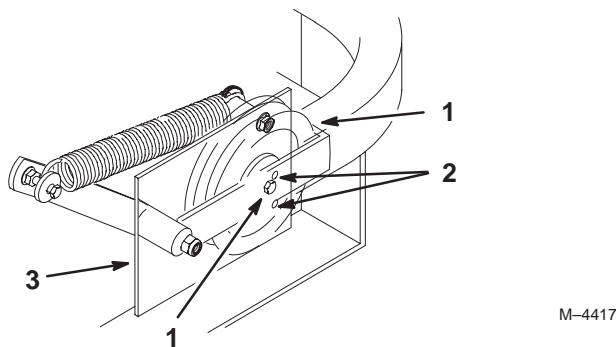

Figure 69
Important Check and make sure the belt is installed into both the front and rear belt guides (Fig 69).
4. Check the belt tension. The spring loaded idler center bolt needs to be near the top alignment hole in left support plate (Fig 69).